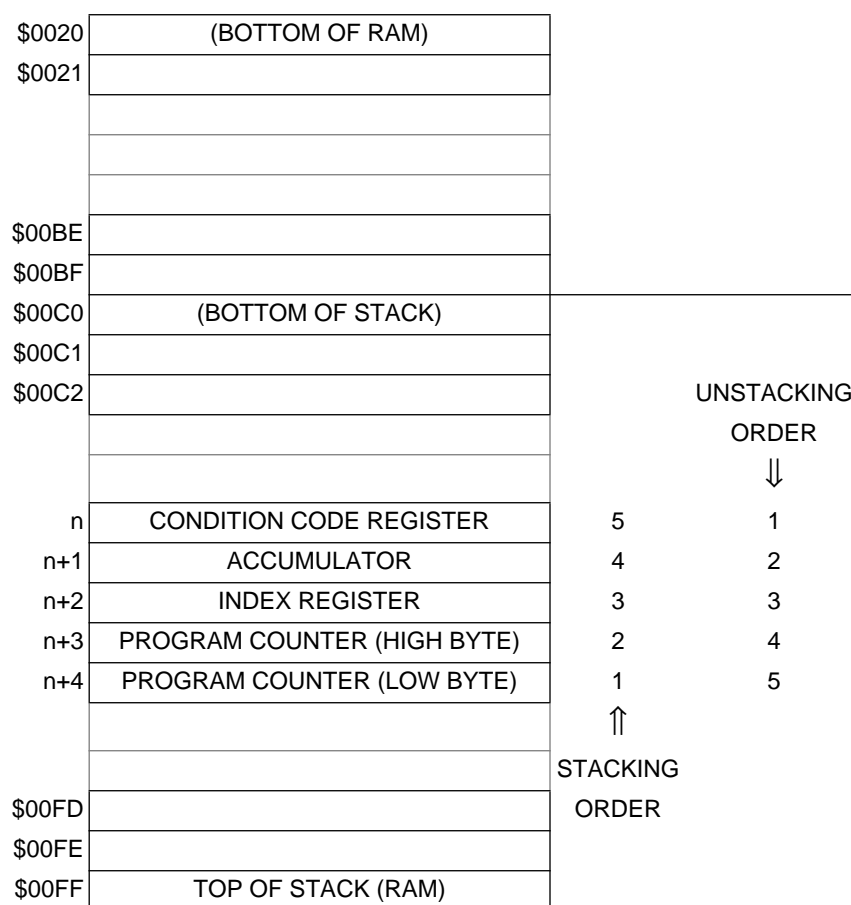
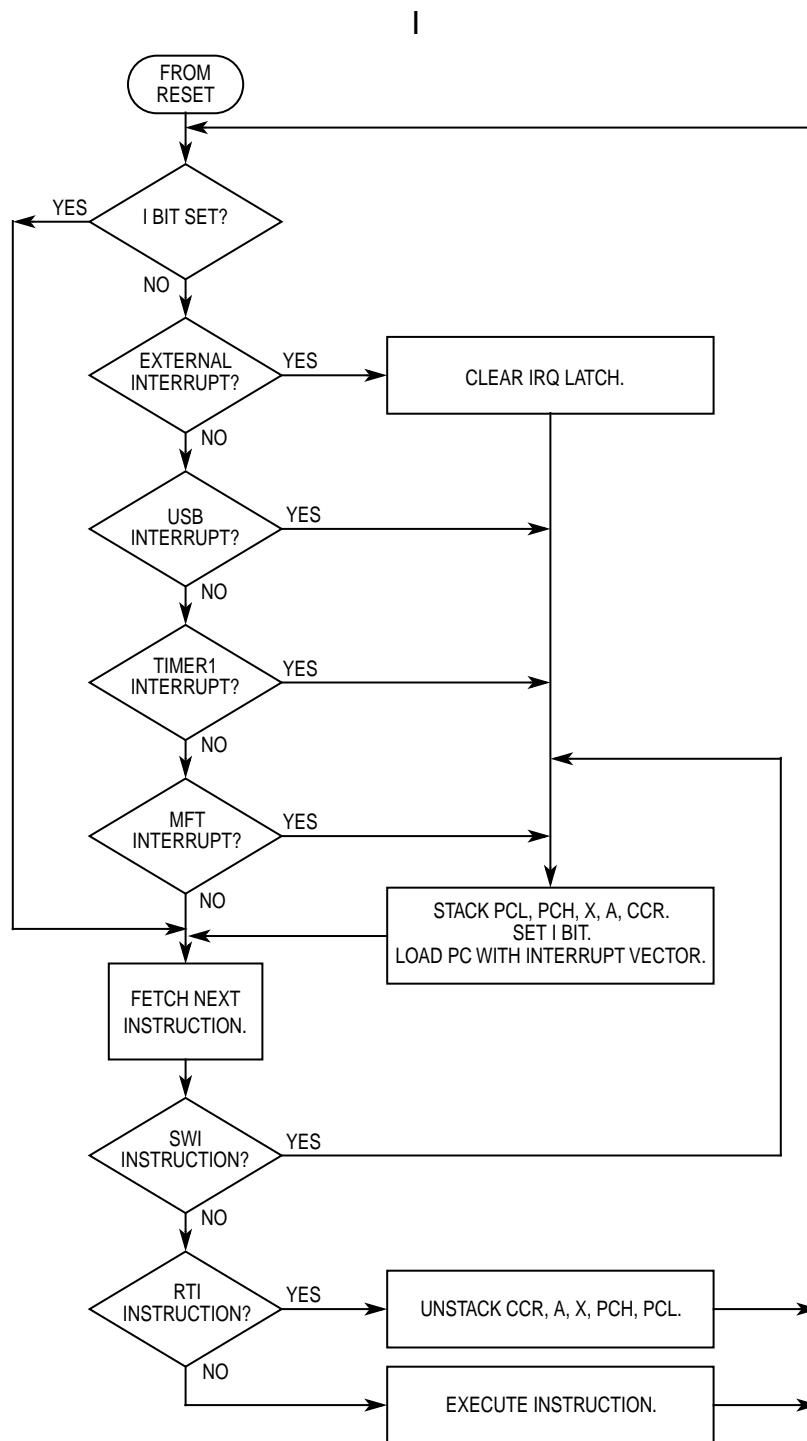

Figure 4-1. Interrupt Stacking Order
Figure 4-2. Interrupt Flowchart
- Stores the CPU registers on the stack in the order shown in **Figure 4-1**.
The return from interrupt (RTI) instruction causes the CPU to recover its register contents from the stack as shown in **Figure 4-1**. The sequence of events caused by an interrupt are shown in the flow chart in **Figure 4-2**.
The RESET function is not in the strictest sense an interrupt; however, it is acted upon in a similar manner as shown in **Figure 4-2**. A low level input on the RESET pin or an internally generated RST signal causes the program to vector to its starting address which is specified by the contents of memory locations \$1FFE and \$1FFF. The I-bit in the condition code register is also set.